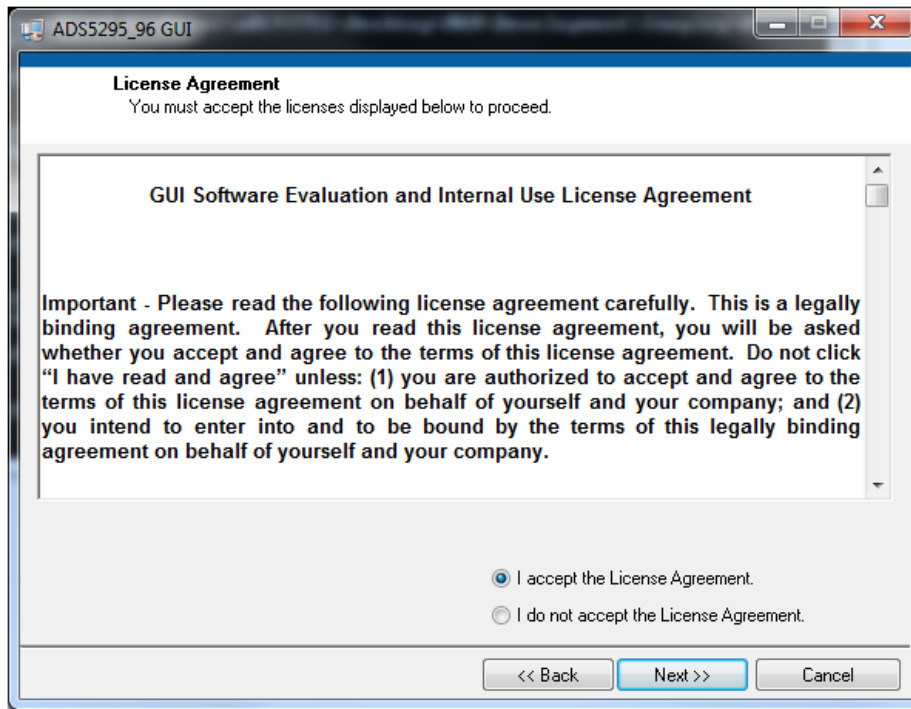

Figure 13. ADS5296 GUI Install (c)
- Read the License Agreement from Texas Instruments and select the *I accept the License Agreement* button and then press the *Next* button as shown in Figure 13.